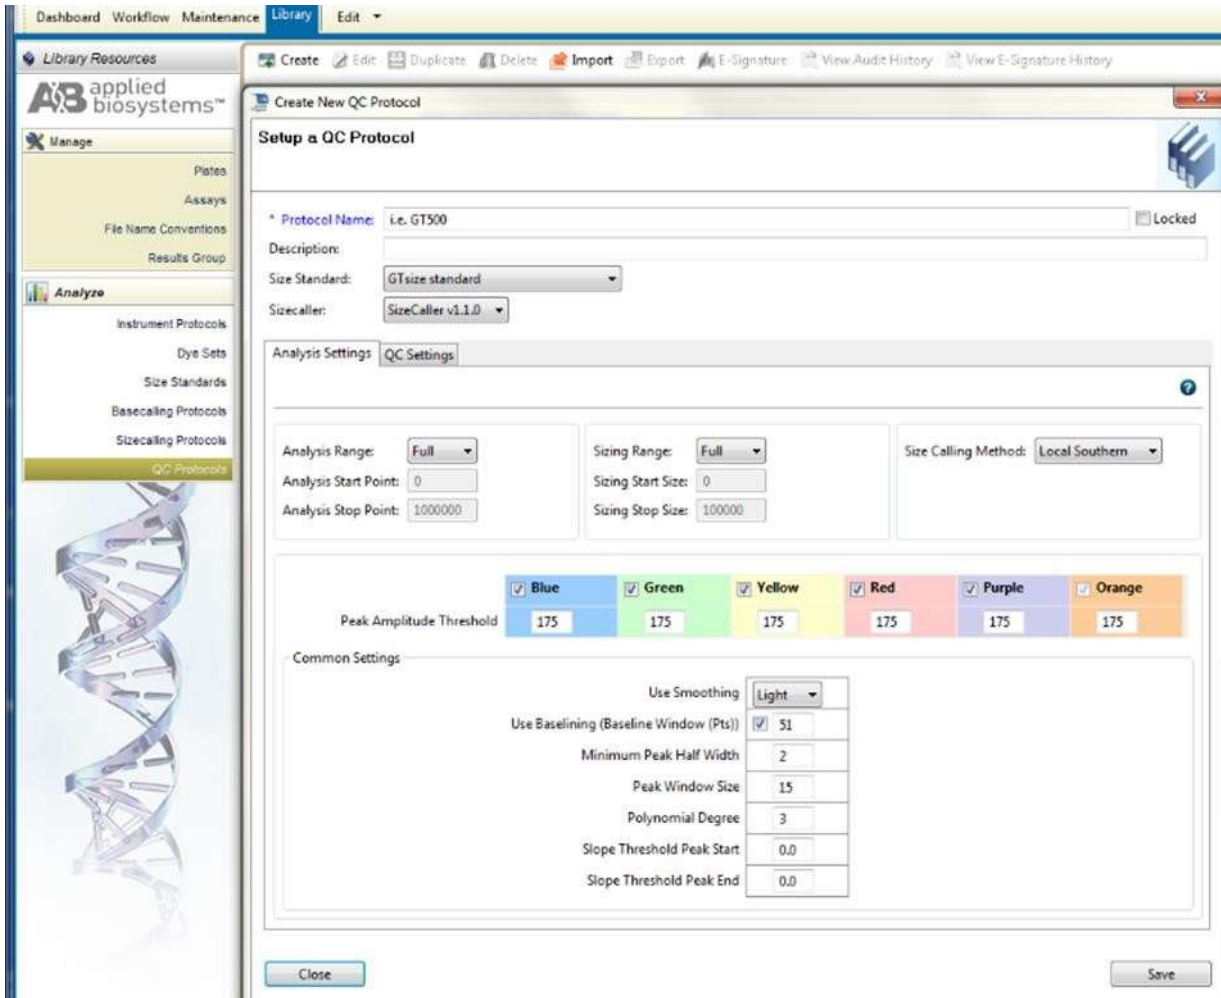

Figure 6. Screenshot for the “Create New QC Protocol” window on Applied Biosystems 3500 Data Collection software
- c) Select “Create” (Figure 6)
Users can select settings as shown in the Figure 6 or alternatively may define these settings based on internal validation condition for GT MD1 Detector on the Applied Biosystems® 3500/3500xL Genetic Analyzer.